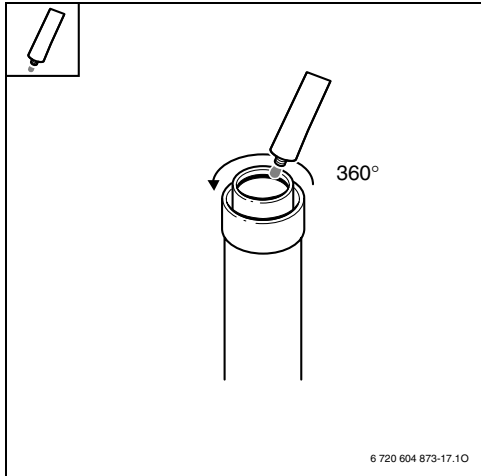

Fig. 35
►Lightly grease seal on flue side with solvent-free grease (e.g. Vaseline) (Fig. 35).